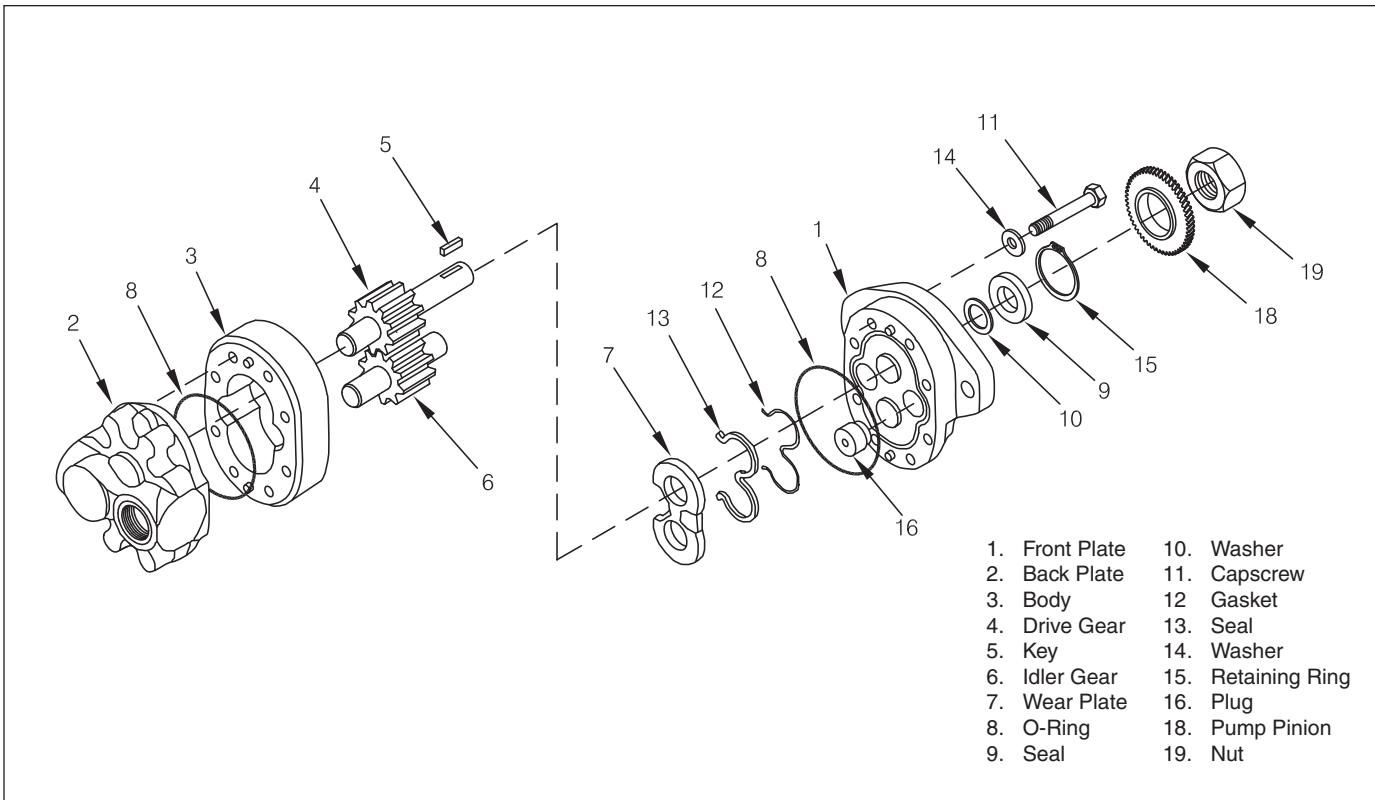

Figure 4-7 Hydraulic Pump
2. Loosen pressure hose from pump check valve. Remove the two capscrews securing the pump, then remove the pump. See Figure 4-7 for an exploded view of the pump.